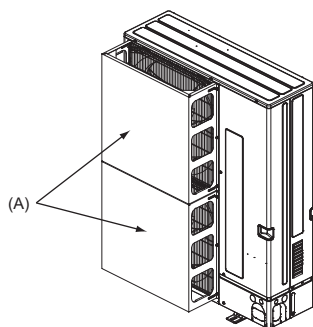

Fig. 2-4
- Install an optional air outlet guide and air guide if the unit is installed in a location where strong winds from a typhoon, etc. may directly enter the air outlet. (Fig. 2-4)